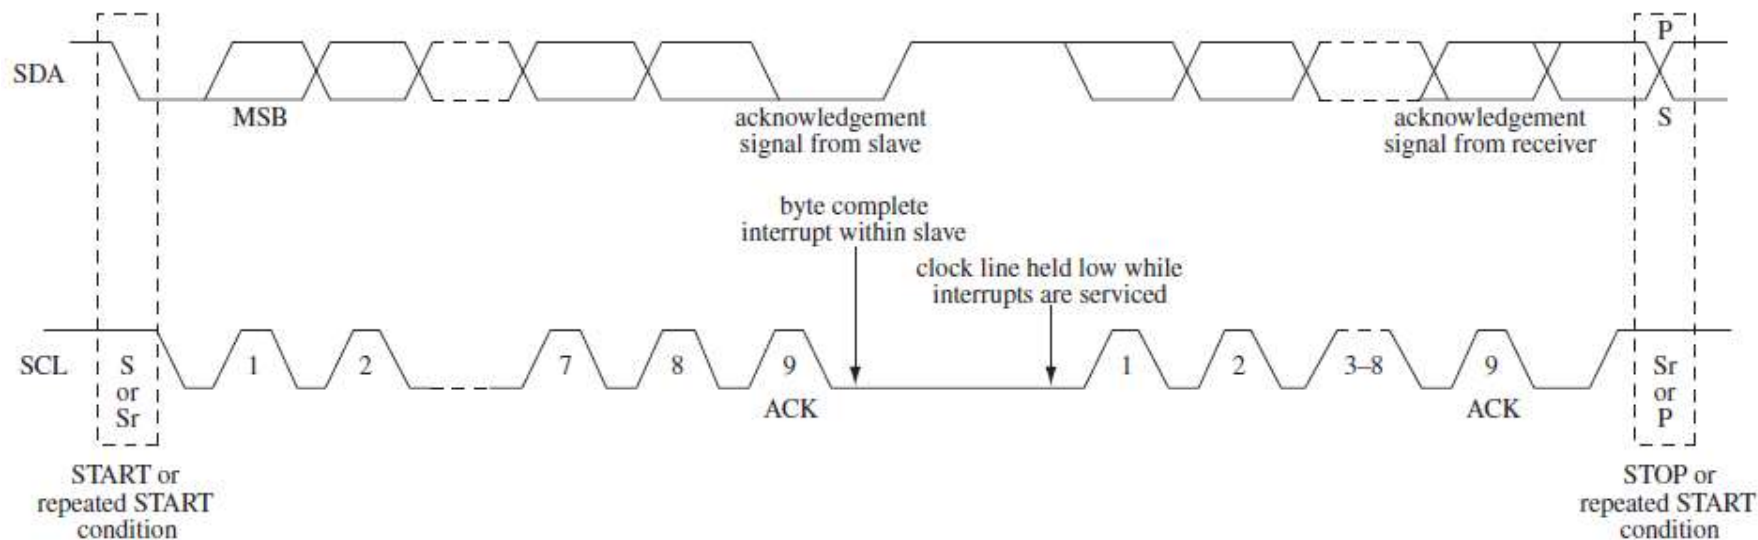

Figure 6: I2C complete transfer diagram
- Figure 6 shows an example of a complete transfer session.